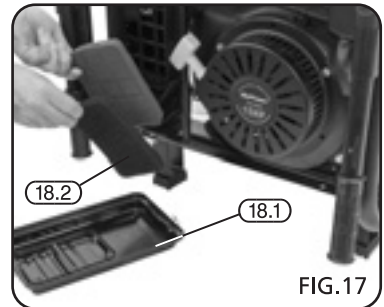

FIG.17
10.3 AIR FILTER CLEANING - FIG 17